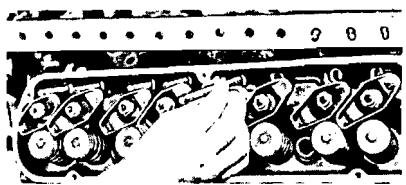

FIG. 29—Valve Push Rod Removal
5. Loosen the rocker arm stud nuts so that the rocker arms can be rotated to the side. Remove the push rods in sequence (Fig. 29) so that they may be installed in their original positions.